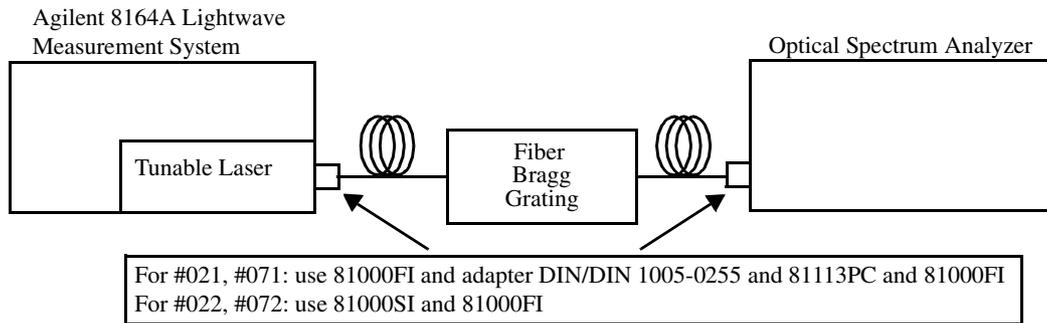

Figure 24 Test Setup for Source Spontaneous Emission Test
- 1 Connect the Tunable Laser module (DUT) to the Optical Spectrum Analyzer as shown in Figure 24. Connect the one end of the fiber to Output 1, the Low SSE output, and the other to the Optical Spectrum Analyzer.